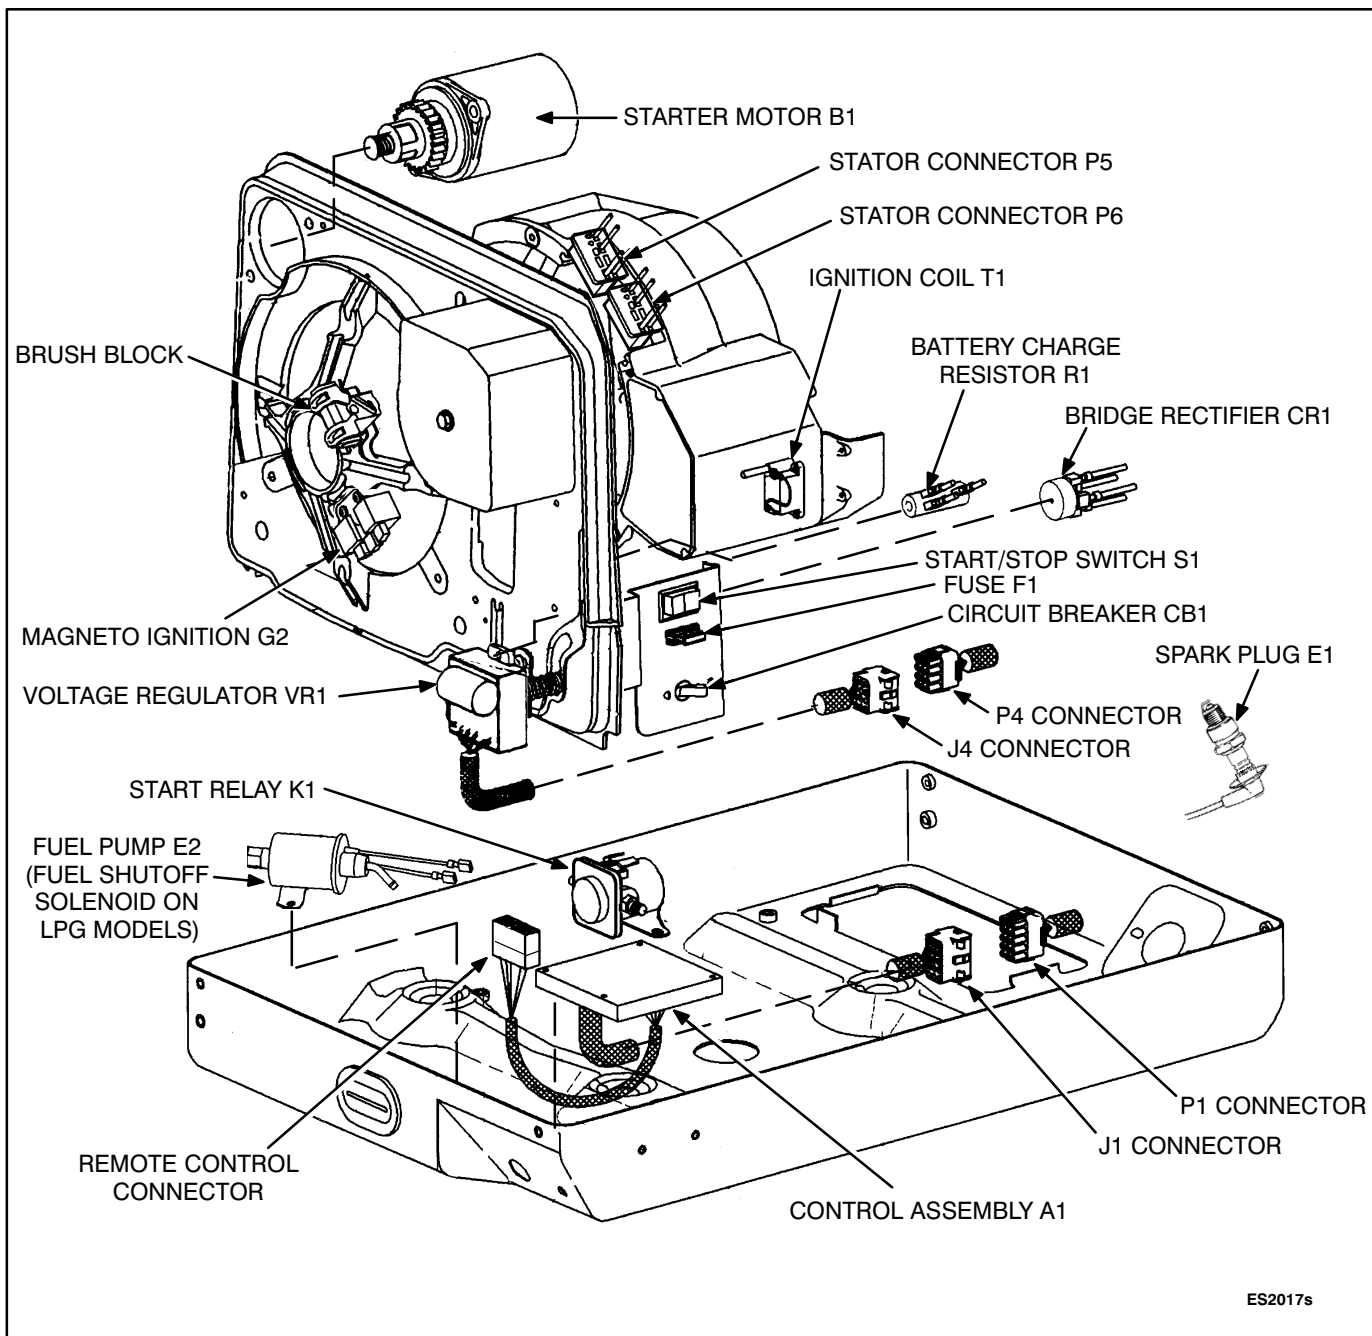
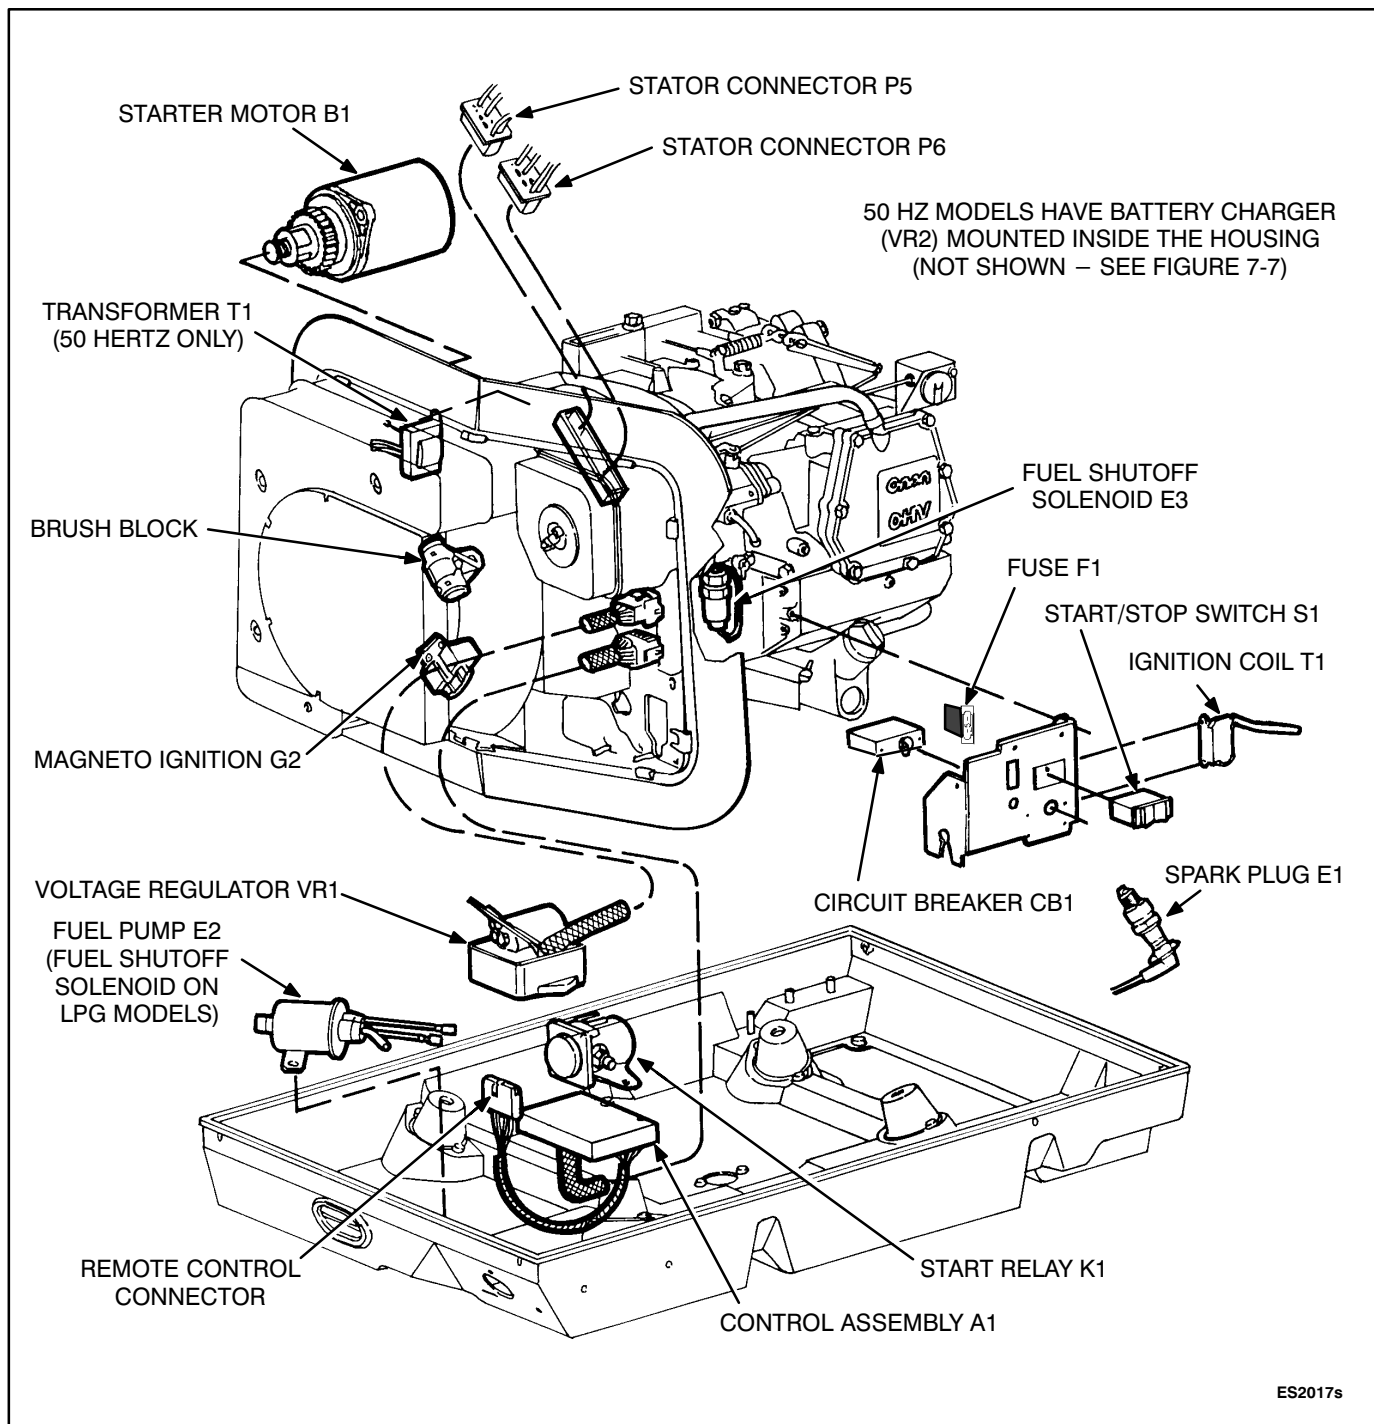

FIGURE 6-1. COMPONENT LOCATIONS – GASOLINE-FUELED SPEC A MODELS
FIGURE 6-2. COMPONENT LOCATIONS – GASOLINE-FUELED MODELS, BEGINNING WITH SPEC B
5. Disconnect the generator load wires from inside the genset. Remove the control assembly mounting bracket (Figure 6-1 on Page 6-2 or Figure 6-2 on Page 6-3). Raise the control assembly and disconnect the ground and neutral (L2) lead from the ground terminal. Disconnect the inline load (L1) lead connection. Tag the wires for identification when reconnecting.
Refer to Figures 6-1 and 6-2 on Pages 6-2 and 6-3 to identify the component locations for the Spec A and Spec B models.